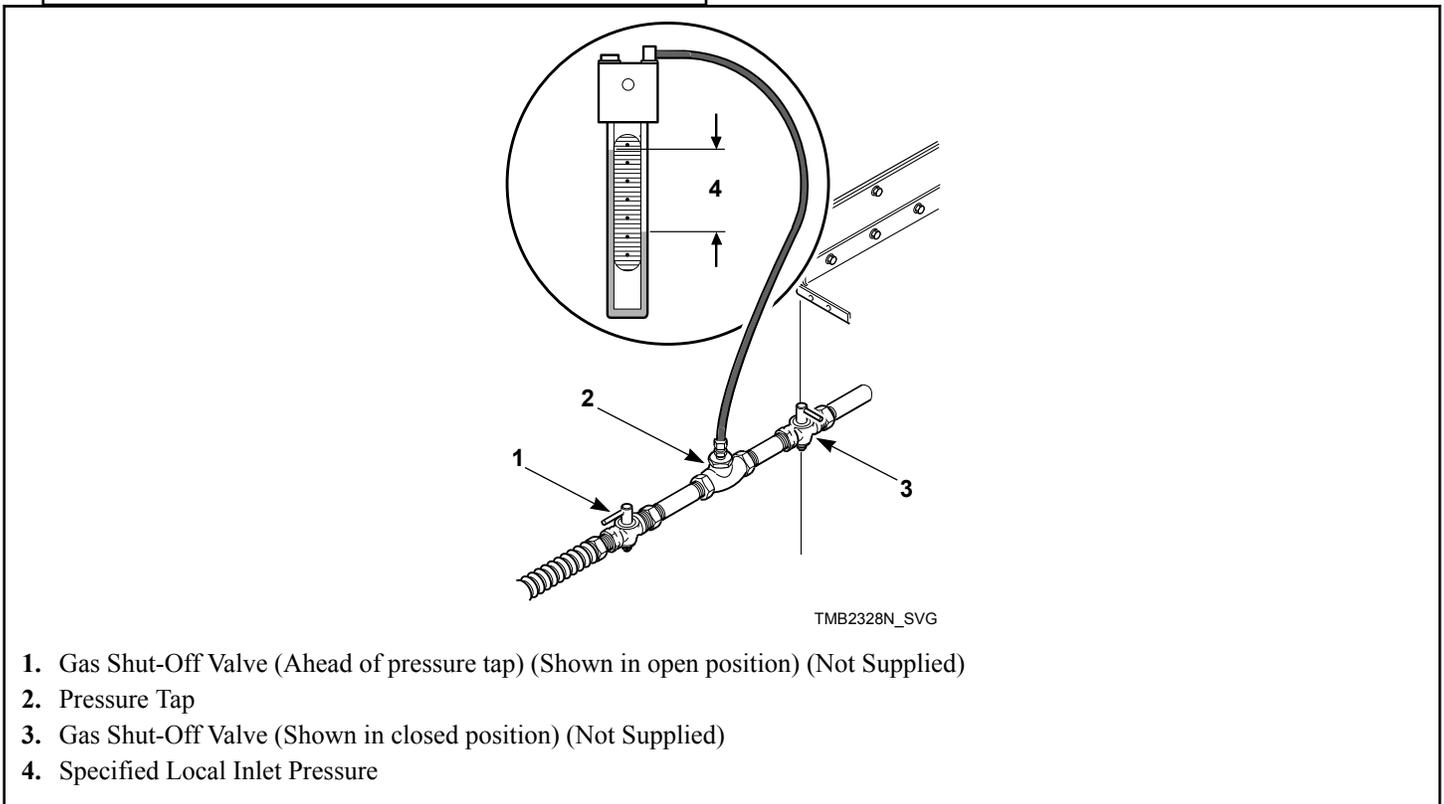

Figure 17
1. Disconnect electrical power from tumble dryer. Close gas shut-off valve to tumble dryer. Refer to *Figure 17* .